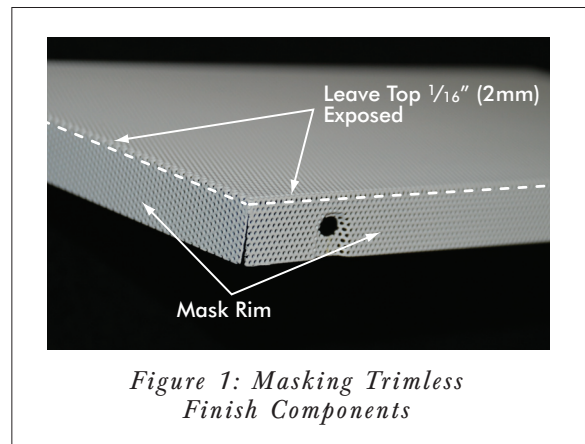

Figure 1: Masking Trimless Finish Components
- **For trimless Finish Components:** Mask the inside and outside surfaces of the entire rim, but leave the top $\frac{1}{16}$ " (2mm) of the rim's outside surface exposed to the paint, since this will be visible when the Finish Component is installed on the speaker. (See Figure 1.)